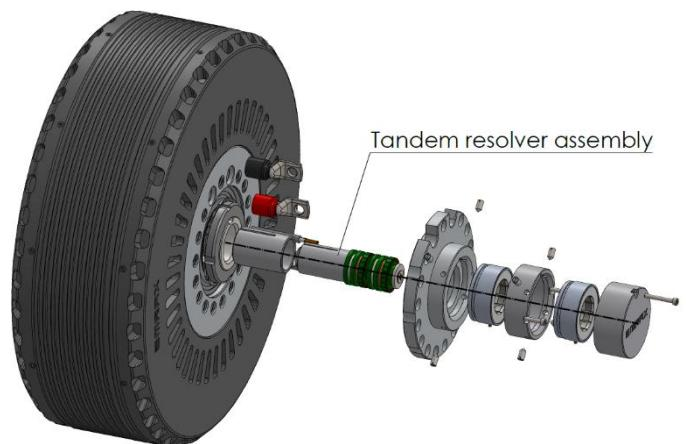
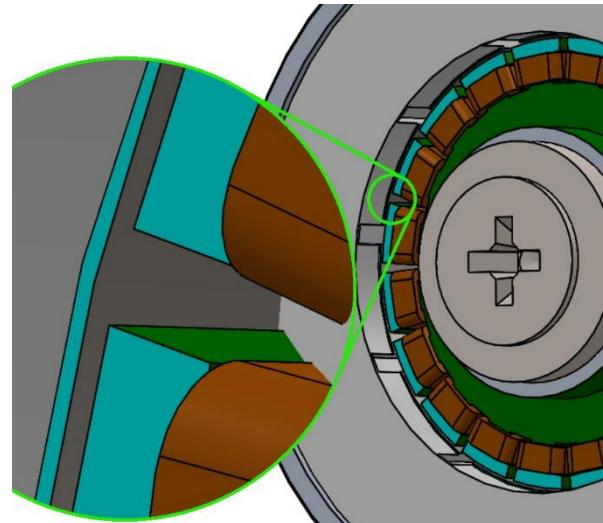

Figure 10: Tandem resolver assembly
Figure 12: Resolver rotor alignment
3. Insert the rotor assembly into the backside of the motor, inside the motor shaft (as shown on *Figure 10*). Before inserting the part use threadlocker glue on the faces, where the parts are mated.
4. If case of liquid or combined cooled motor, insert the coolant fittings into the stator (please refer to *Chapter 3.6.*). Mount the resolver bracket (7) on the back of the motor. Make sure that it is seated in its position, if necessary, use temporary bolts to tighten it to the motor.
5. Mount the first resolver stator (9) to the mounting flange of the resolver bracket (7). While holding the resolver stator (9) down, use DIN 914 set screws (8) to bolt it down from the side. Using threadlocker glue supplied with the kit on the threads is recommended.
6. Make sure all the highlighted surfaces (blue) in *Figure 12* are aligned in one plane.